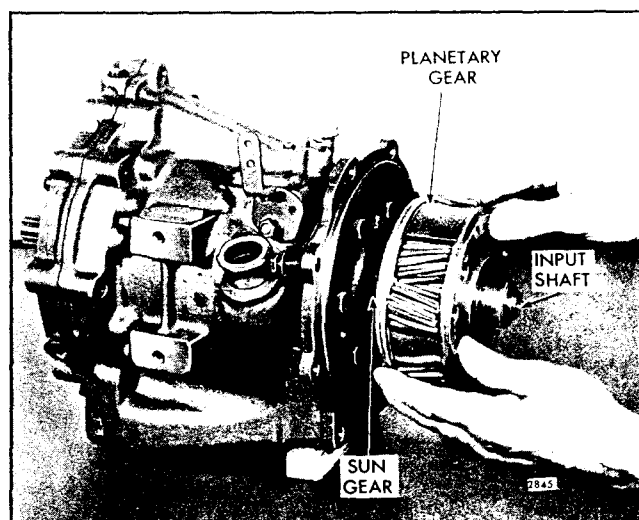

Fig. 13 - Removing or Installing Reduction Gear Planetary Gear Assembly from/on Sun Gear and Input Shaft (2.1:1 Ratio)
On a 2.1:1 ratio reduction gear, remove the reduction gear planetary gear assembly (77) and the two planetary gear thrust washers (94), Fig. 1, from the sun gear and the reduction gear input shaft as shown in Fig. 13.